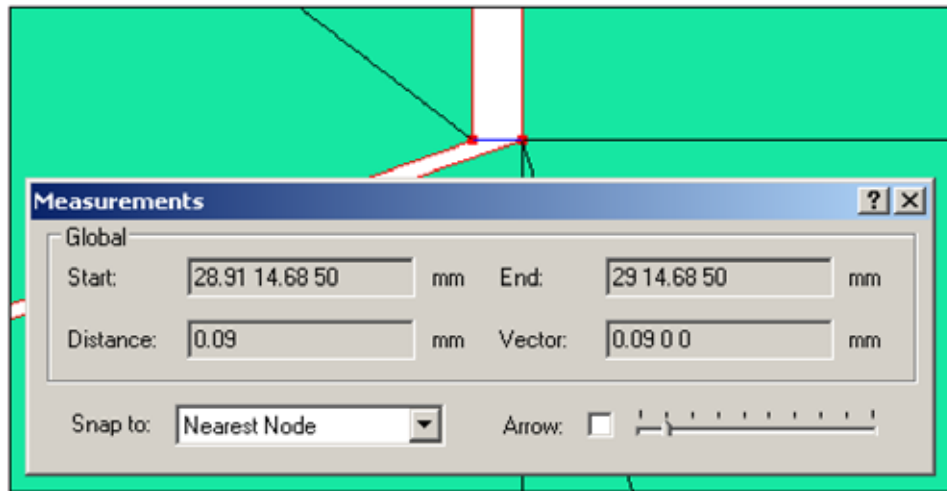

Figure 26: Measuring the gap between nodes
- Refer to Figure 26. The gap is rather narrow at 0.09 mm. The stitch edges tool will be used to close the gap.